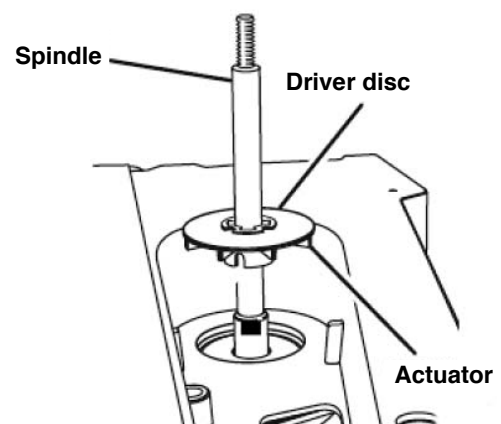

Fig. 5: Mount the drive plate
Step 2: Place the drive plate on the spindle (Fig.5). Make sure that the drivers point downwards. Carefully screw down the drive plate until the drivers engage in the drive shaft.